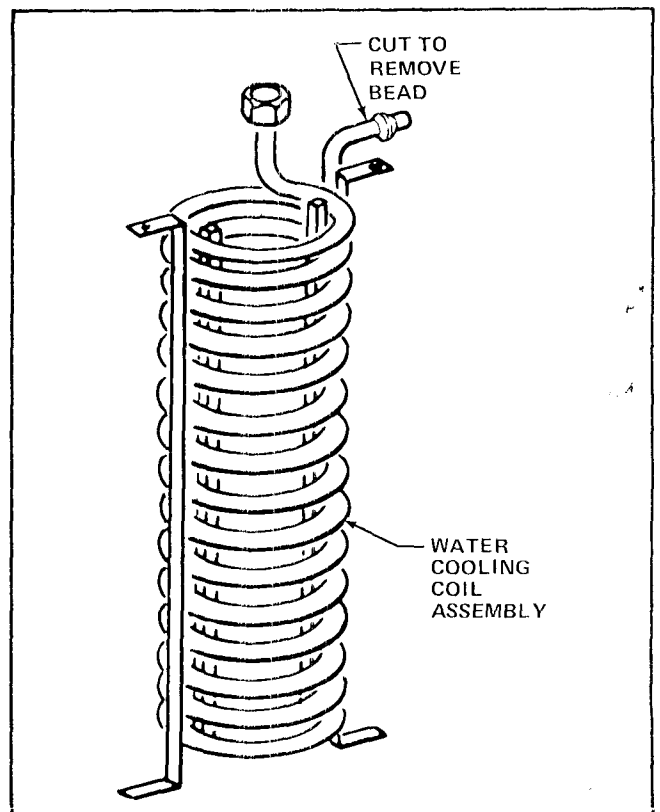

FIGURE 7
1. To remove the compression bead on the end of the Water Cooling Coil, use a tube cutter to cut the Stainless Steel Tubing. Position the tube cutter as close to the bead as possible. See Figure 7.